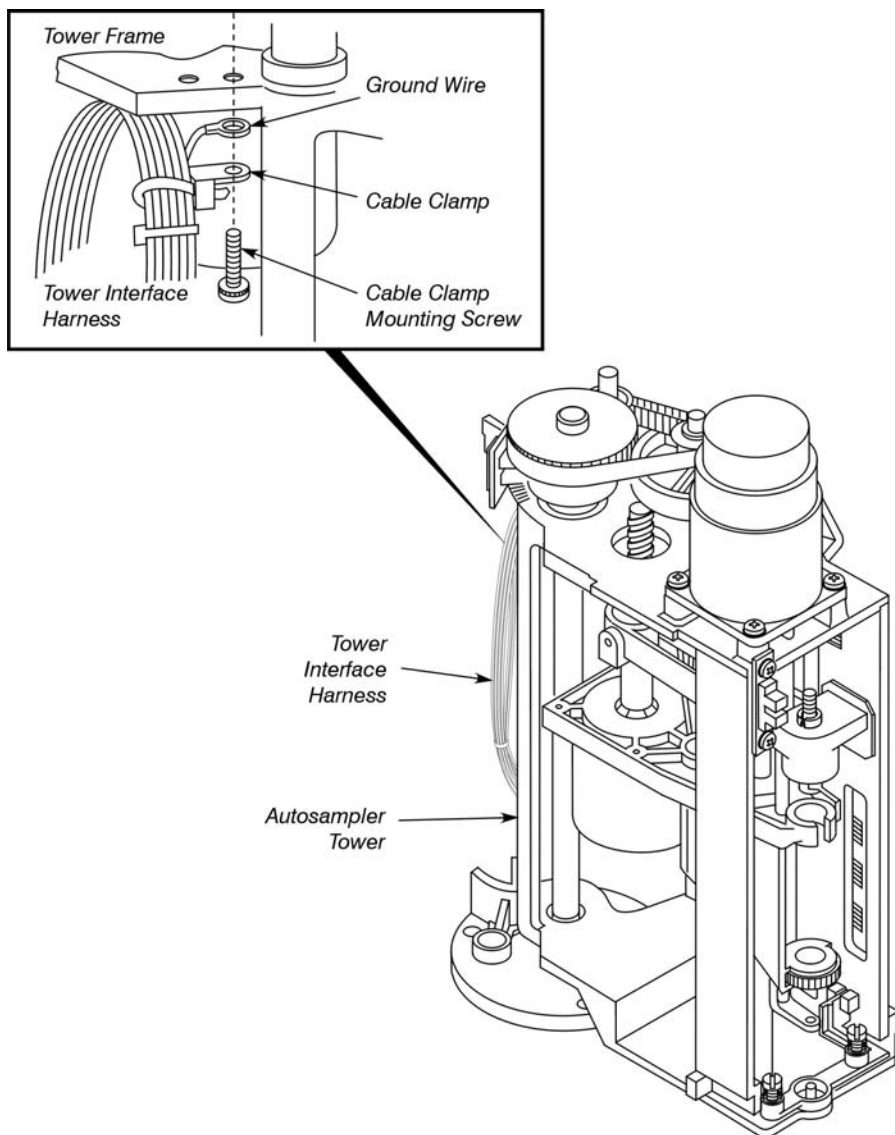

Figure 3. Securing the harness to the tower.
6. Secure the harness to the autosampler tower frame using the cable clamp attached to the harness. Attach the cable clamp and the harness ground wire to the underside of the casting as shown in Figure 3, using the screw provided. Make sure the harness is routed correctly before you tighten the screw, or you may have difficulty installing the autosampler tower cover.